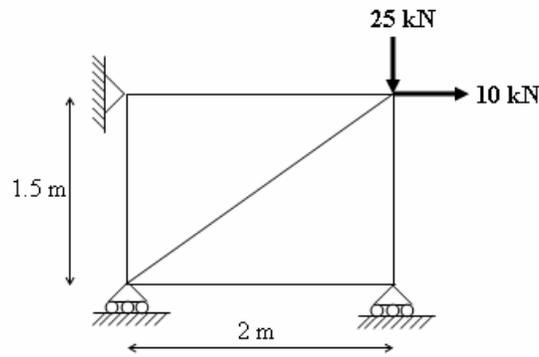

Fig. 3
5. Analyze the plane truss shown in Fig.3, using flexibility method. [16]